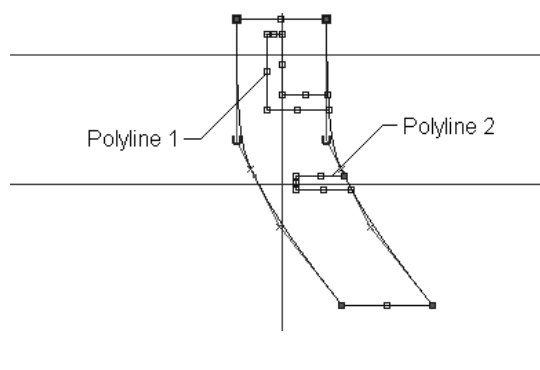

Figure 7-84 Polylines for the tread profile
7. Choose the **Polyline** button from the **Keypoint Curve Toolbox** and create polylines, as shown in Figure 7-84.